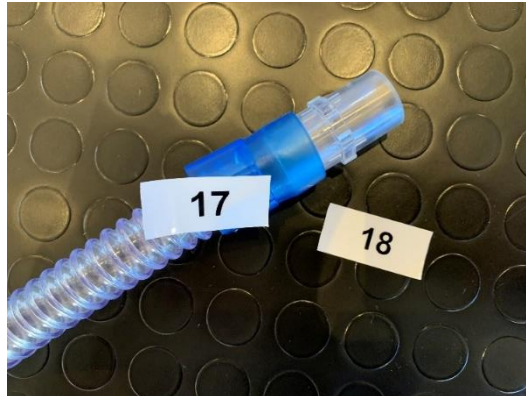

Figure 4.22. Connecting the standard disposable breathing hose connector to a standard disposable breathing hose.
- 15- If necessary, connect the free end of the standard, disposable breathing hose (17) to the standard disposable breathing hose connector (18), otherwise skip to next step (Figure 4.22).